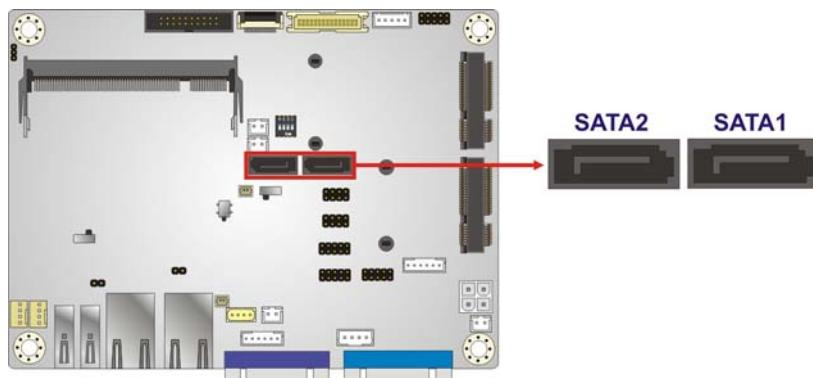

Figure 3-21: SATA 3Gb/s Drive Connectors Locations
**CN Location:** See Figure 3-21